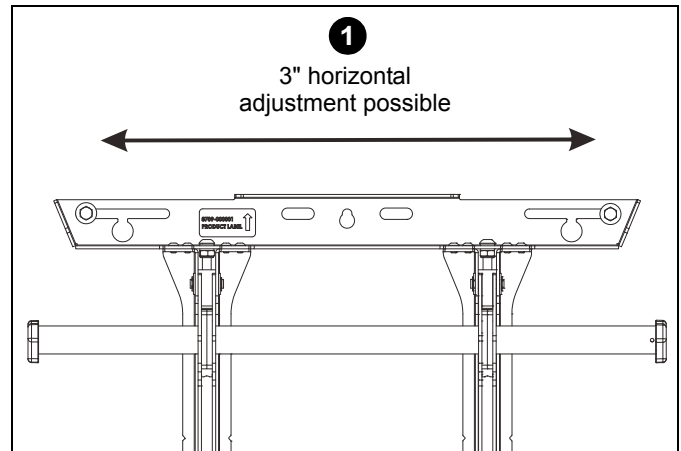

Figure 11
1. The wall mount may be adjusted side to side at the point(s) of attachment. (See Figure 11)